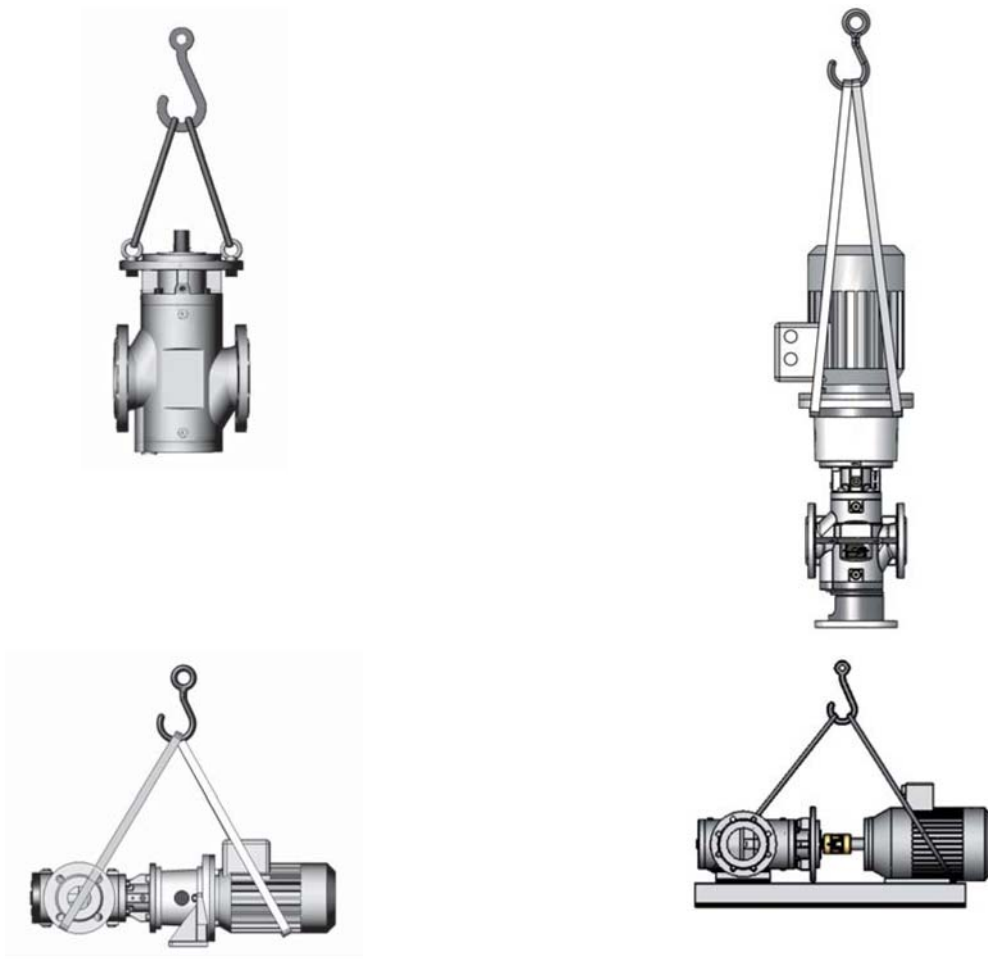

Fig. 1 Fastening hoisting equipment – Principle diagrams
- ▶ Attach the hoisting equipment to the pump/pump unit, see Fig. 1, page 8, and lift the pump/pump unit.